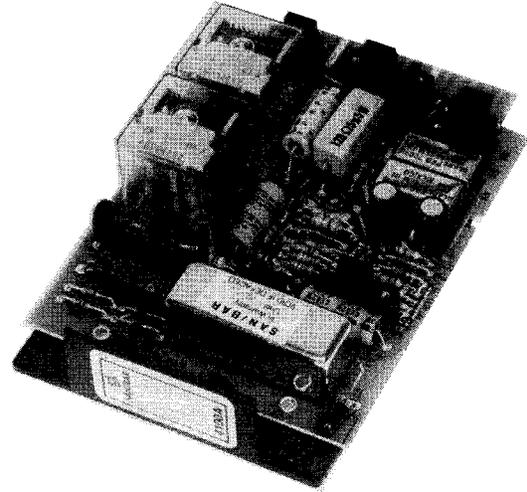
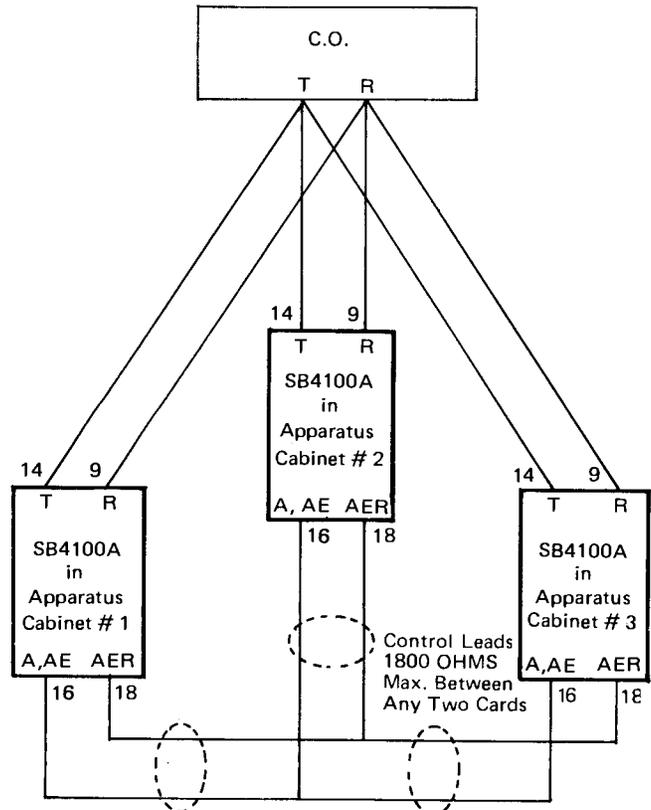

FIGURE 1 SAN/BAR 4100A LINE CARD
FIGURE 2 Block Diagram for Three Locations
- 1.2 The SAN/BAR 4100A Line Card, as shown in Figure 1, is a simplified KTU line card designed for full compatibility with all types of key telephone systems working in conjunction with a central office or EPBX/PABX equipment. A special additional feature of this card is its ability to control key telephones at two or more distant locations which share the same lines. The SB4100A provides simultaneous lamp supervision for key telephones by using an additional control pair between locations (1800 ohms max. each conductor). See Figure 2